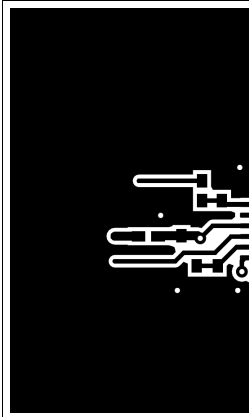

图 42. Top Layer Traces and Copper
- Increasing the PCB copper connecting to VDDA, VDDB, VSSA and VSSB pins is recommended, with priority on maximizing the connection to VSSA and VSSB (see 图 42 and 图 43). However, high voltage PCB considerations mentioned above must be maintained.